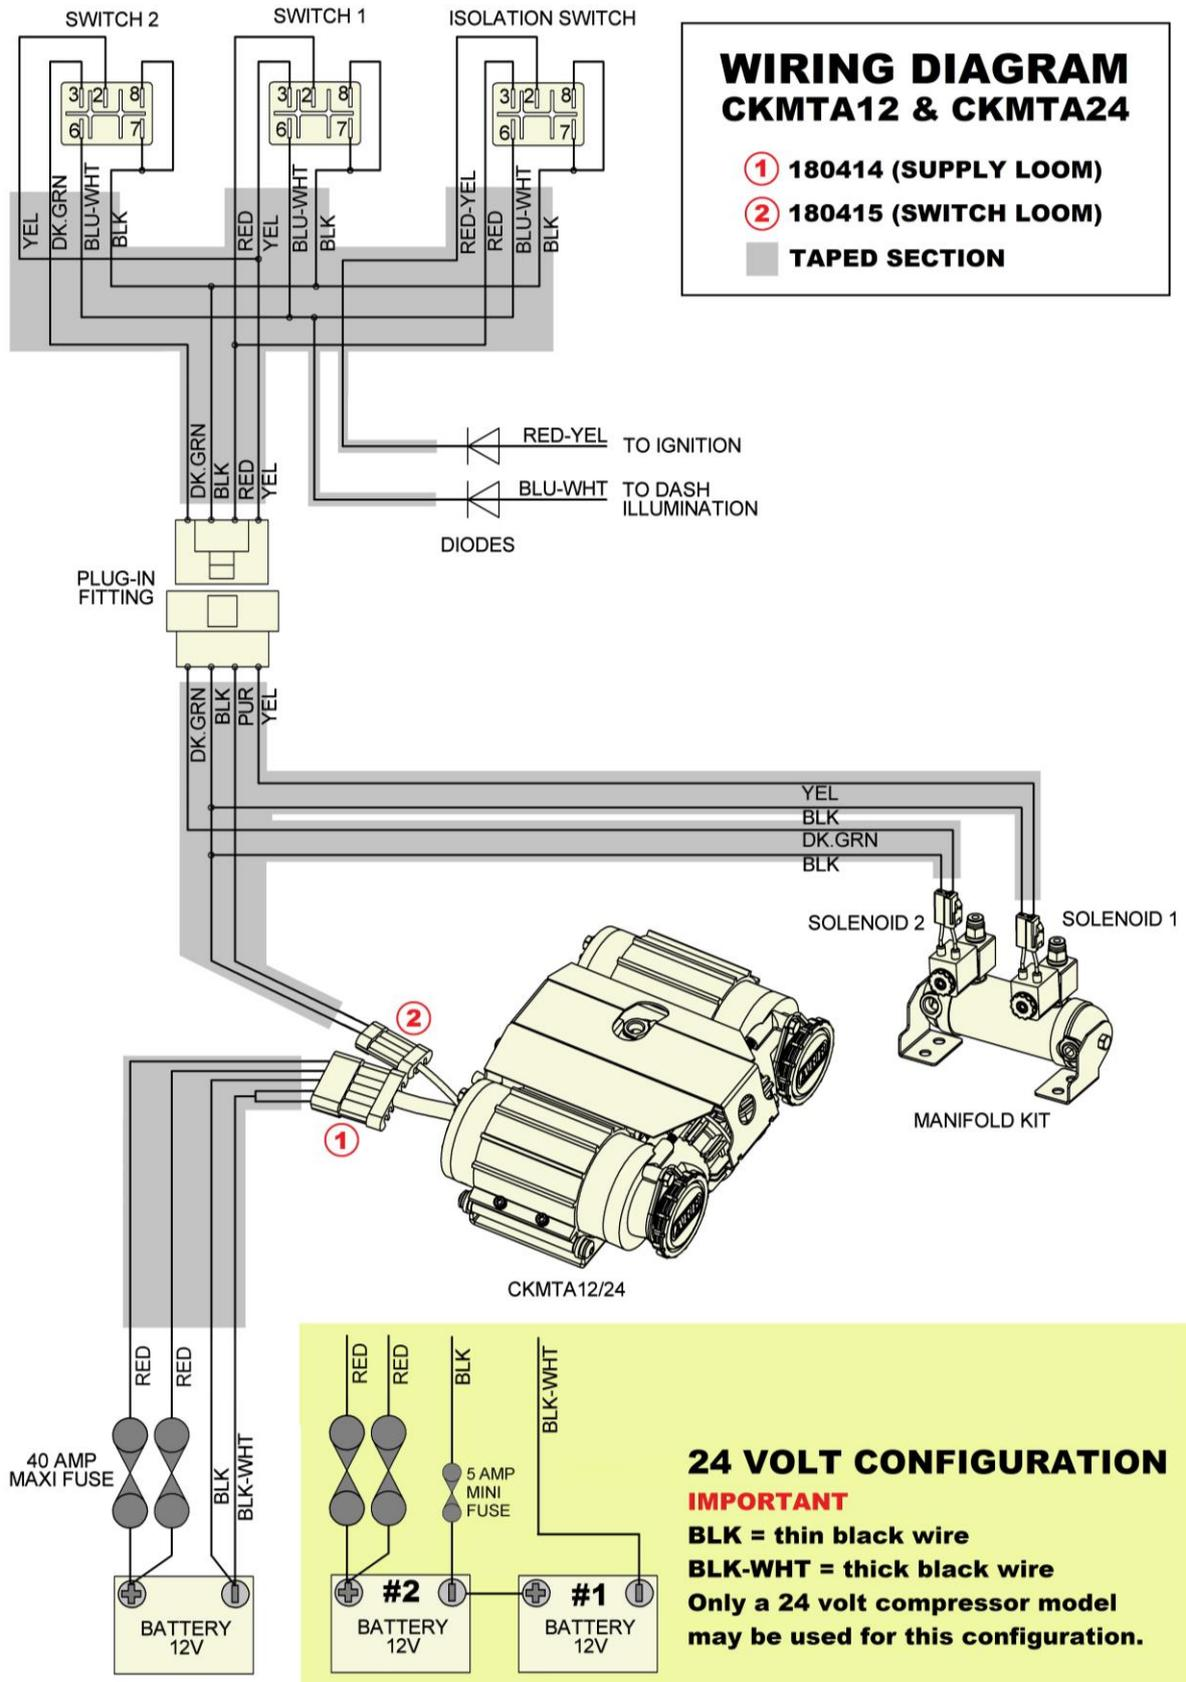
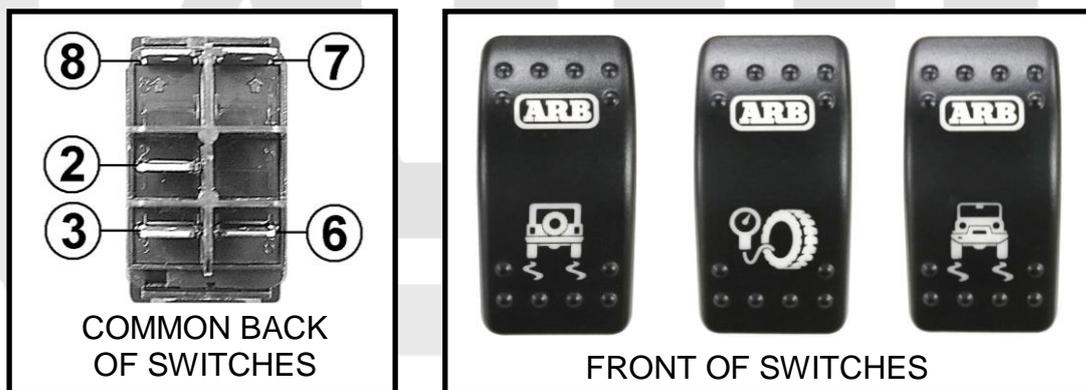

Figure 9.
Figure 10.
When wiring an ARB compressor switch, *Air Locker* actuator switch(es) and *Air Locker* solenoid(s), all connections can easily be set up using only the supplied wiring looms (ARB #180414 and 180415 shown in Fig. 9.)
- Consulting the wiring diagram (Fig.9.) for wire colors, and the switch terminal illustration (Fig.10.), plug each of the female spade terminals onto their appropriate switch terminal.
SINGLE AIR LOCKER: If only one Air Locker is installed then it should be wired using the terminals for 'SWITCH 1', regardless of whether the Air Locker is mounted in the front or rear axle. Wire the 'ISOLATION SWITCH' according to Figure 9, and leave the 'SWITCH 2' wiring disconnected.
NO AIR LOCKERS: To install the CKMTA12 in a vehicle without Air Lockers, the spade terminal connections for 'SWITCH 1' and 'SWITCH 2' as well as Solenoid 1 and 2 can be left disconnected. Make the remaining connections according to Figure 9. The isolation switch will function as a compressor ON/OFF switch.
NOTE : In a 12V system the 2 black wires (BLK and BLK-WHT) will be joined together, so they may be crimped together into the same eye terminal if desired. Refer to wiring diagram in Fig 9.
- Identify which battery in the system will be used as the 24V negative (-) terminal (i.e., Battery #1 in the wiring diagram Fig. 9.) by connecting a multimeter across the positive (+) terminal of one battery to the negative (-) terminal of the other battery. If you have tested the correct negative (-) terminal then you will read approximately 24 volts on the multimeter, and this battery will be battery #1, and the other battery with the positive (+) terminal you have just tested will be battery #2 (refer to wiring diagram Fig. 9.).
NOTE : Double check that the connections match the wiring diagram (Fig 9.). Accidentally reversing the 2 black wires will cause damage to the compressor kit.
The following describes an effective procedure for tracing an electrical fault in a CKMTA12 or CKMTA24 compressor which has been wired using a genuine ARB wiring loom (refer to the diagram in Figure 9.). All steps must be performed in the order listed here for an accurate assessment.